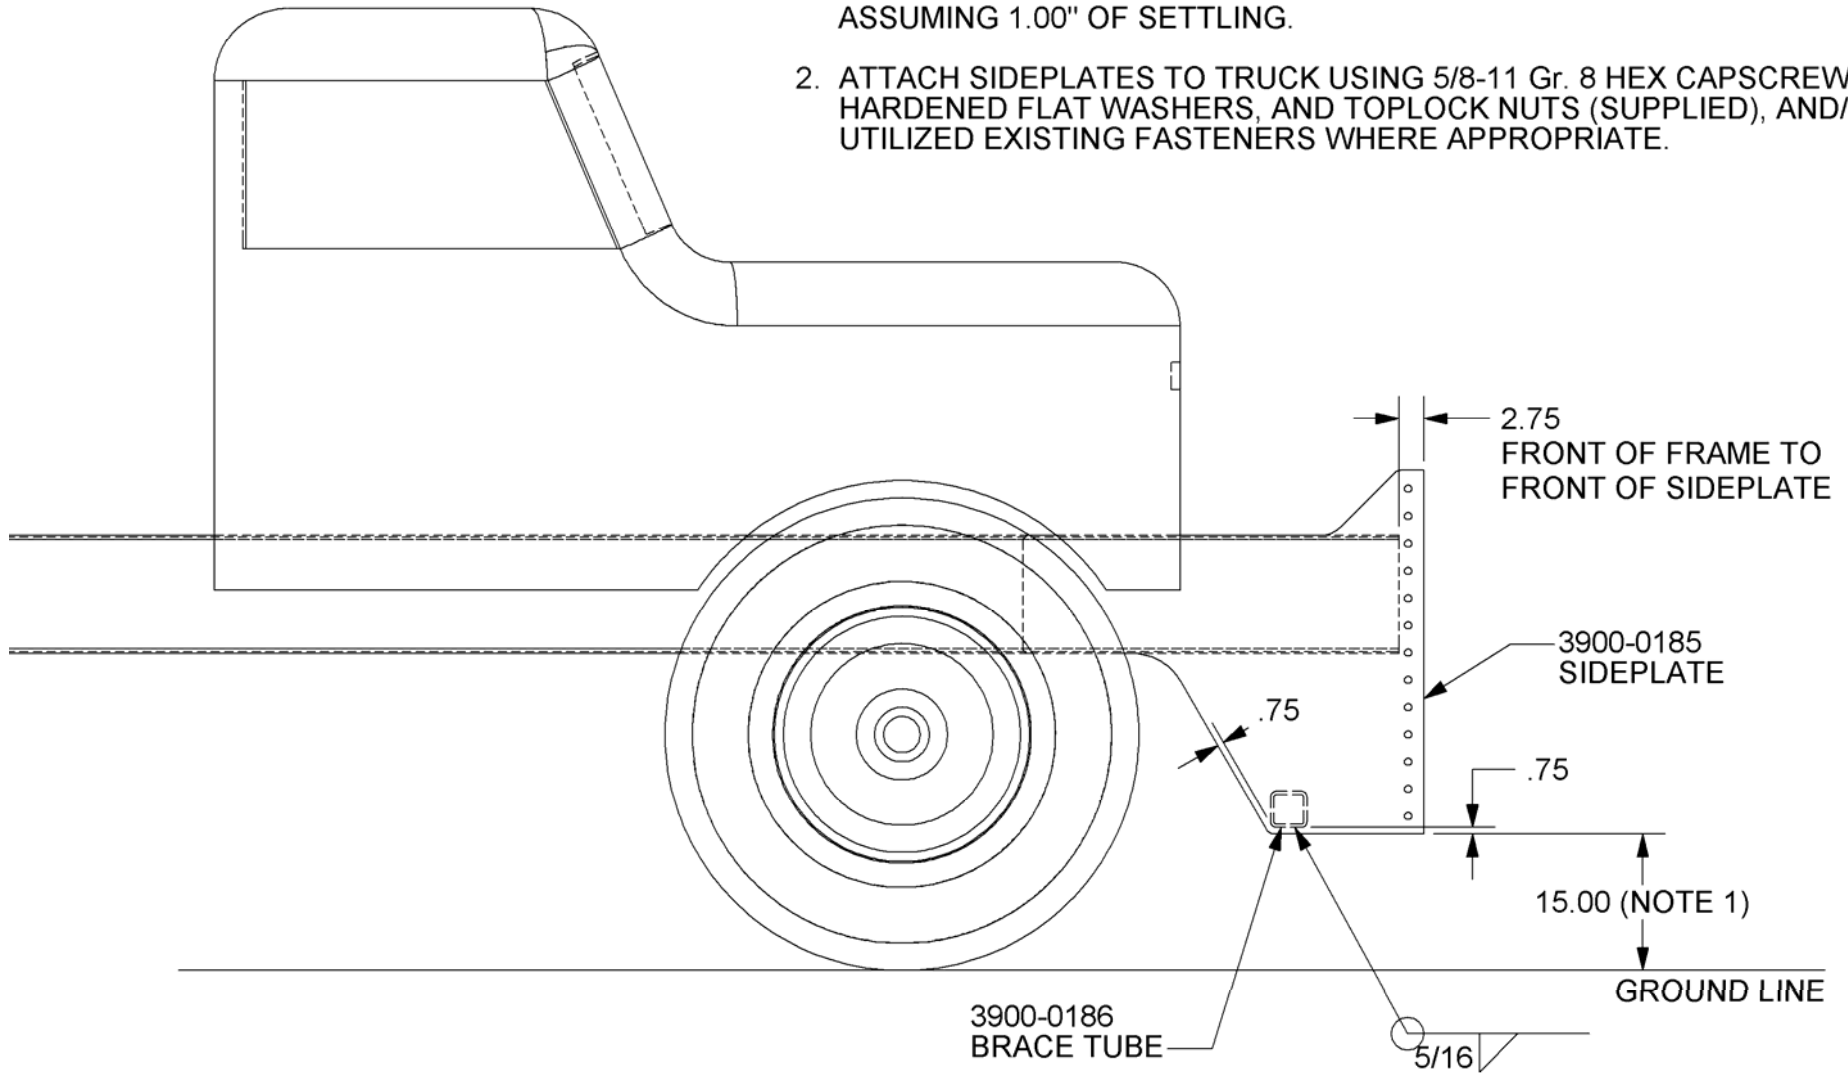

FIGURE 1 - MOUNTING OF SIDEPLATES AND BRACE TUBE
1. Lift sideplates into position and locate using the two dimensions given in Figure 1. Trim sideplates as necessary to clear obstructions.
2. Attach sideplates to truck frame using a minimum of (12) 5/8-11 Gr. 8 bolts, hardened flat washers, and toplock nuts per side. It may be advisable to use only a few bolts per side at first until you are certain that mounting locations are correct.
6. Locate 3900-0187 brace tube between sideplates and fully weld. See Figure 1.